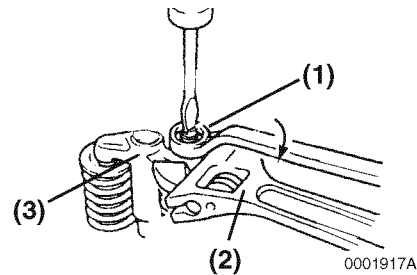

Figure 6-81
4. Loosen the valve bridge adjusting screw lock nut (Figure 6-81, (1)) while holding the bridge (Figure 6-81, (3)) with a wrench (Figure 6-81, (2)).